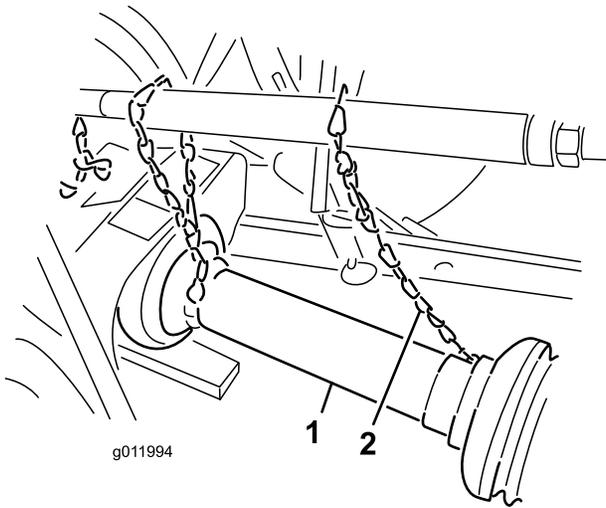

Figure 6
5. Connect the guard safety chains from the power shaft sections to the welded clips on the link arms or to the PTO guards (Figure 6).